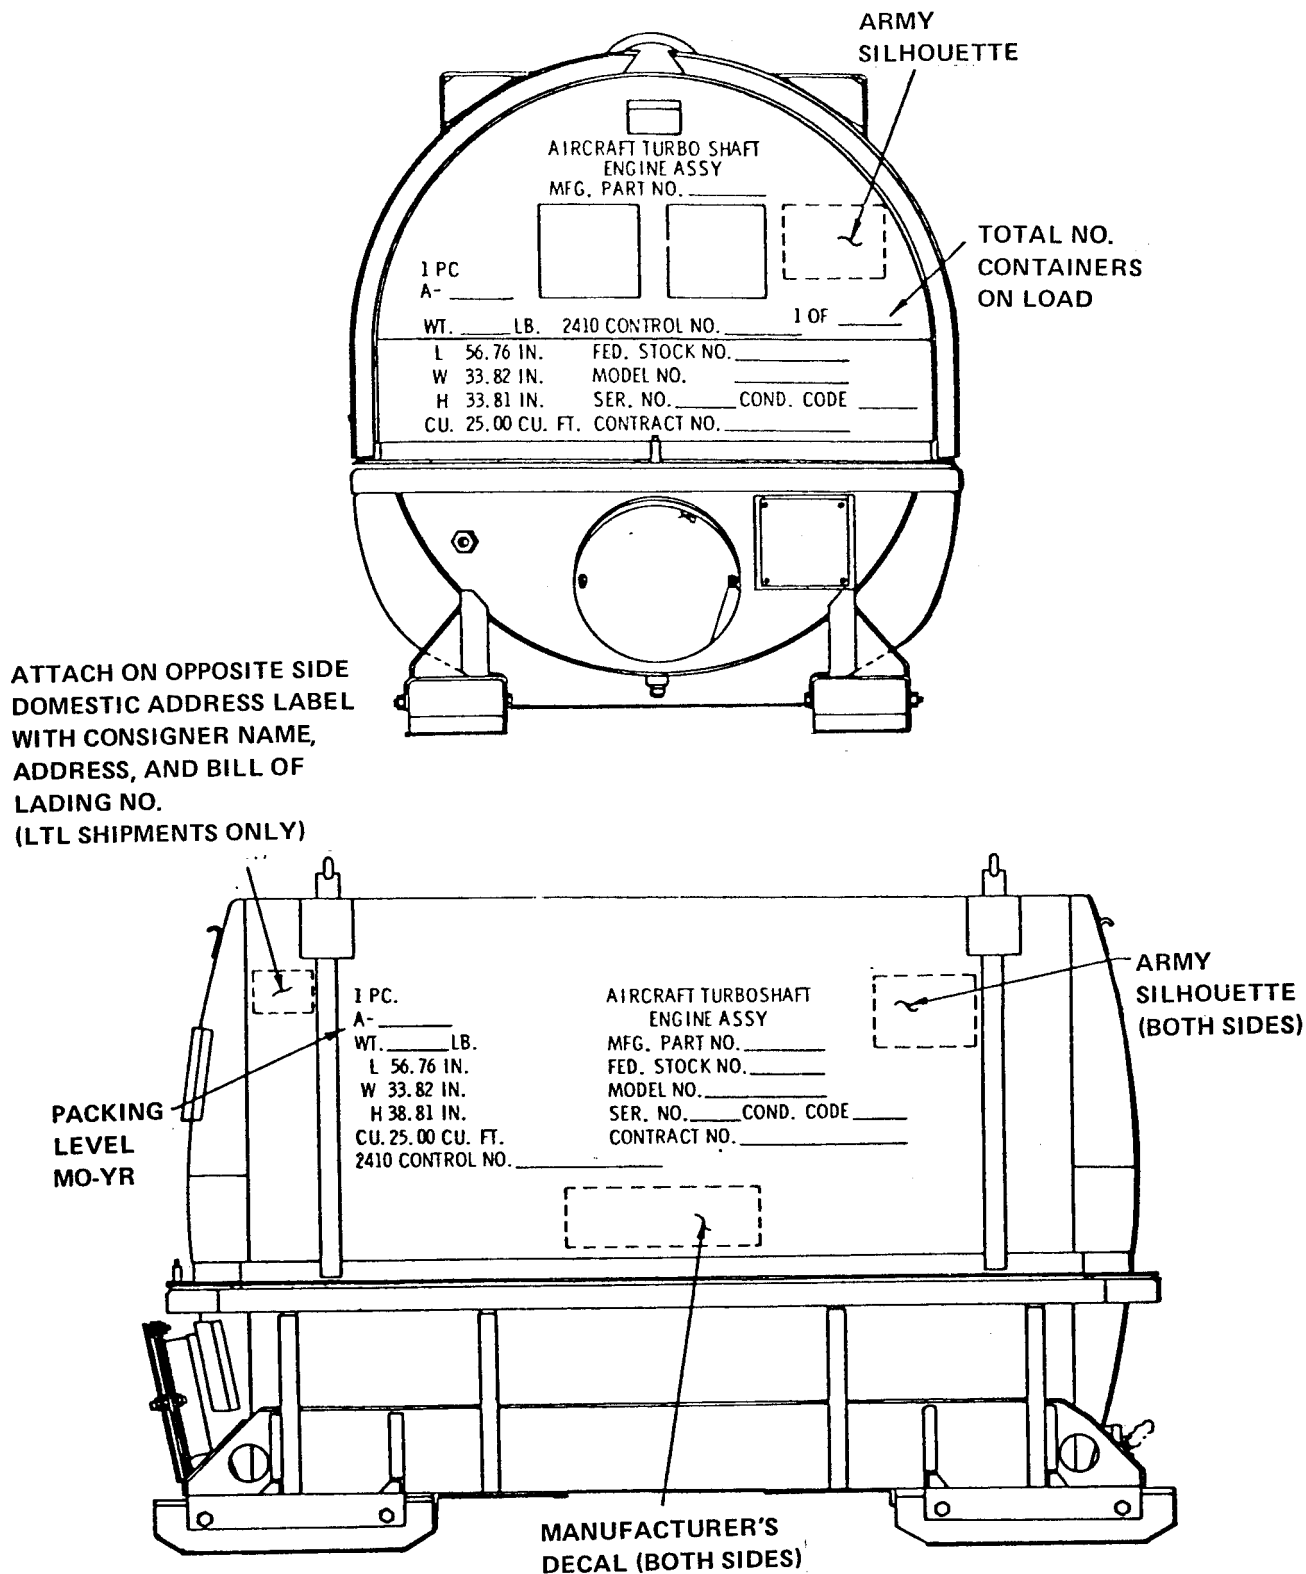

Figure 1-16. Engine Shipping Container Stenciling and Labeling
c. Stenciling, labeling and marking of containers for storage and shipment are shown in figures 1-16 and 1-17. Obliterate old markings that do not apply. Letters and numerals of stencils shall be in block letters 1/2 inch high. Use white stencil ink (item 10, Appendix D). For additional information on marking and stenciling refer to MIL-STD- 129.